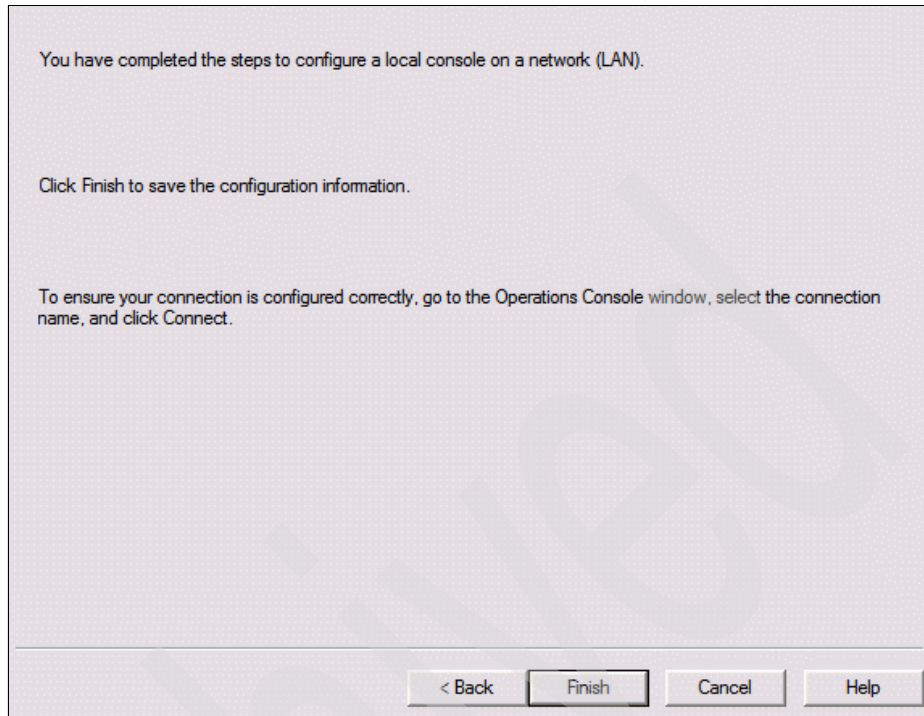

Figure 5-29 IBM System i Operations Console - finalizing the setup
9. Figure 5-29 on page 245 shows the final window that is displayed after you define the recommended information for an IBM System i Operations Console.